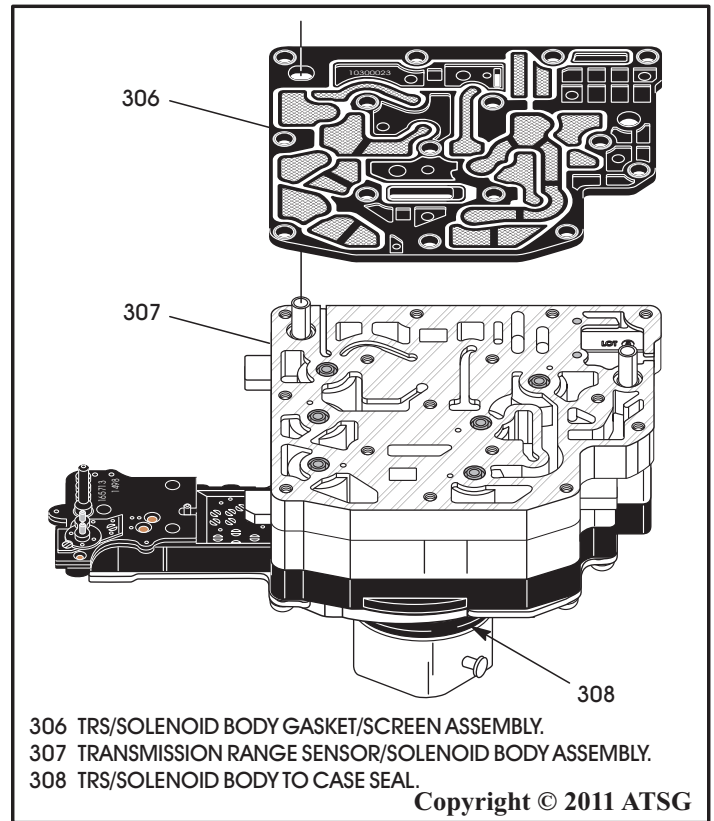

Figure 132
24. Install new TRS/Solenoid Body to valve body gasket/screen assembly, as shown in Figure 132.